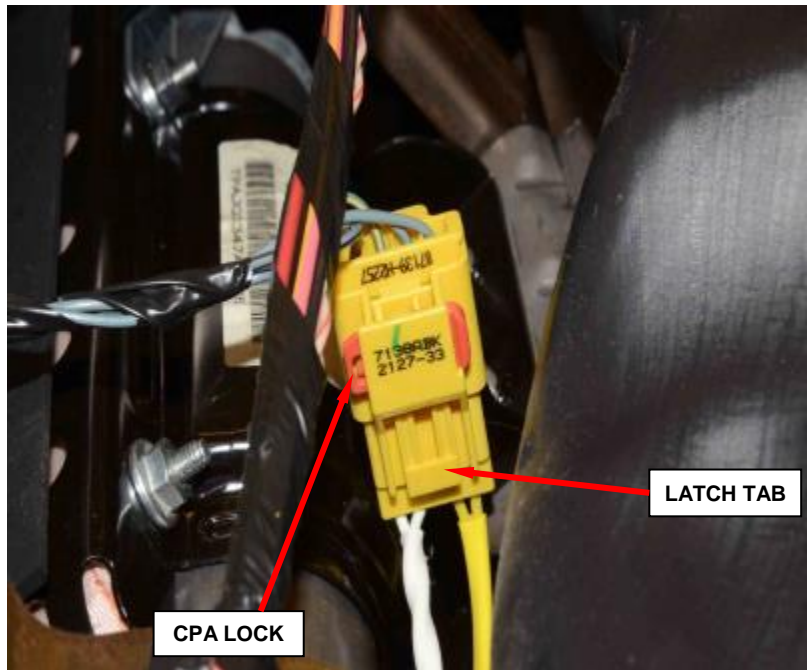

Figure 67 - Airbag Inflator Pigtail Connector
a. Slide the red Connector Position Assurance (CPA) lock on the connector toward the side of the connector (Figure 67).